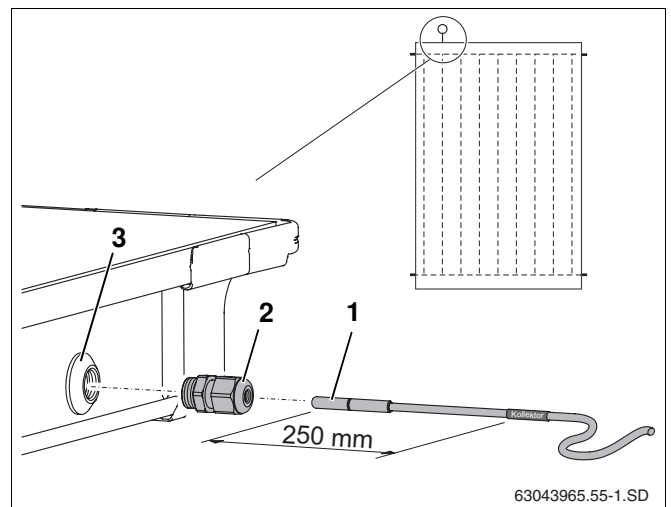

Fig. 33 Pushing the collector sensor into the collector
For perfect functioning of the solar thermal system, the collector sensor (Fig. 33, **Item 1**) needs to be inserted into the sensor guide tube as far as it will go (approx. 250 mm).
- Using the collector sensor or screwdriver, push through the sealing membrane on the sensor bush (Fig. 33, **Item 3**).
- Screw clamped joint (Fig. 33, **Item 2**) into sensor bush.
- Tighten clamped joint (Fig. 33, **Item 2**), counterhold if necessary.
If you accidentally push through the sensor bush (Fig. 33, **Item 3**) on the wrong collector, it can be resealed using the plug from the connection kit. You must first remove the nut in the sensor bush using the cable gland (Fig. 33, **Item 2**).